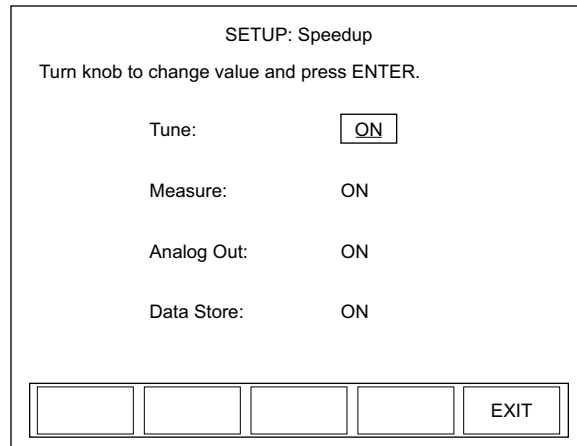

Figure 4-41. SETUP: Speedup
2. Press the ENTER/SET button to Display the SETUP: Speedup screen (Figure 4-41).